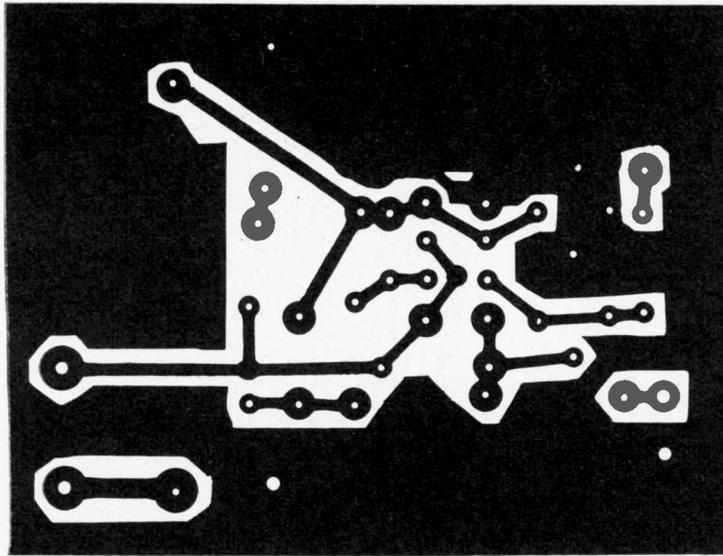
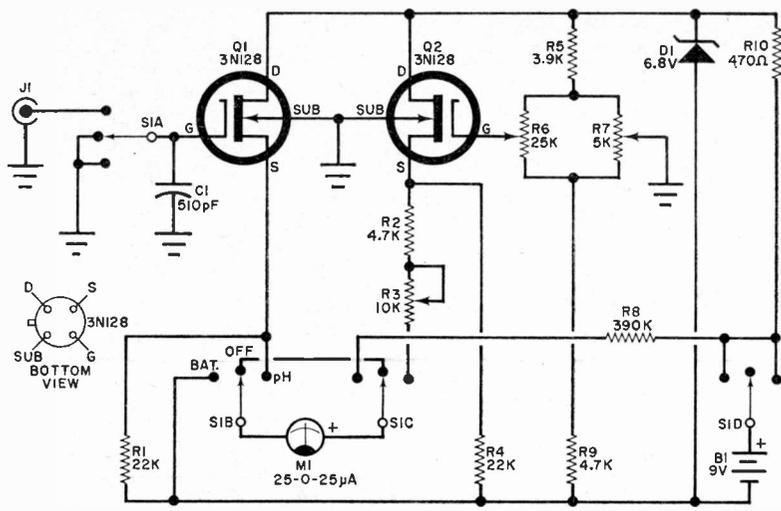

Fig. 2. Use this actual size layout for the PC board for the amplifier. Large amount of foil on the board acts as an extra heat sink for IC1.
Fig. 1. The symmetrical configuration of the differential-amplifier circuit cancels errors caused by temperature and drain-voltage variations in MOSFET'S.
Note: A complete power-supply kit with chassis is available. See Parts List for Fig. 1.
**Construction.** The circuit for the 2-watt amplifier is shown in Fig. 1. It is assembled on a printed circuit board such as the one shown actual size in Fig. 2. When you have completed the board, mount all of the components, except IC1, as shown in Fig. 3. To prepare the IC for mounting, use a pair of long-nose pliers to bend its leads, including the large heat-sink tab, so that they are at right angles to the body of the IC. Be sure that the IC is properly positioned before mounting it on the board; a small notch at one end of the IC must be oriented as shown in Fig. 3.
**Volume and Tone Controls.** If volume and tone controls are desired for the amplifier, insert a circuit such as that shown in the inset in Fig. 1 at the input to the amplifier. The tone control is of the "losser" type so that, as the rotor of the tone-control potentiometer approaches the capacitor end, the high frequencies are attenuated. -50-
The circuit (see Fig. 1) uses two MOSFET's in a differential-amplifier